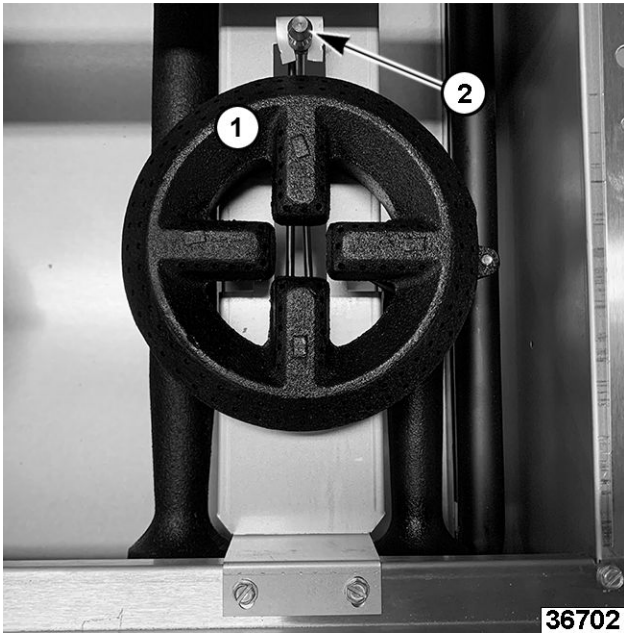

Fig. 26
- Lift burner heads (1, Fig. 26) off.
4. Remove burner retainer bracket (2, Fig. 26).